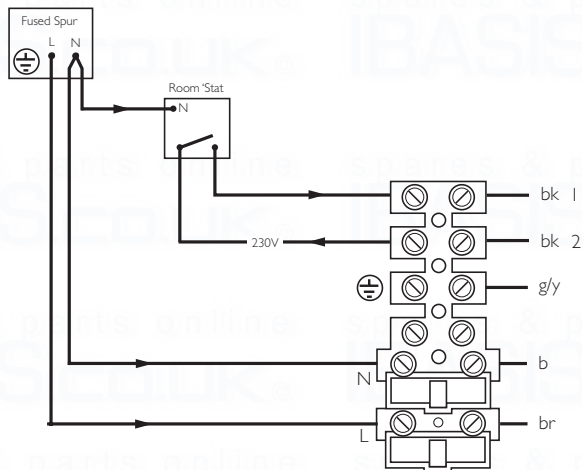

Fig. 48
2. Completely undo the screws securing the facia panel and hinge it down (Fig. 48).
3. Undo the terminal block cover securing screw and remove the cover (Fig. 48).